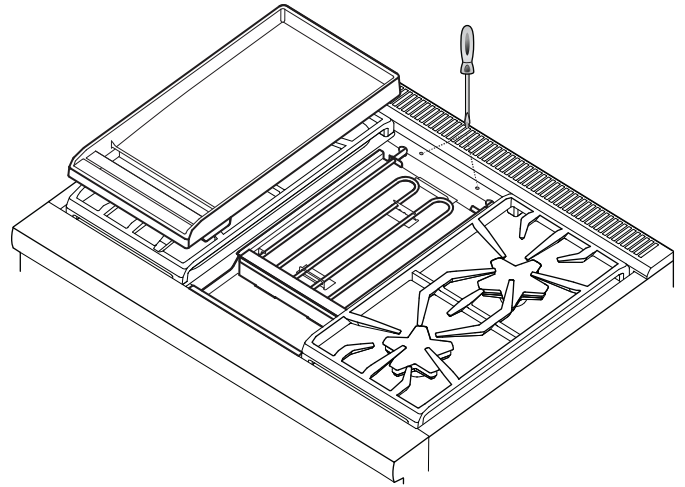

Figure 16: Griddle Plate Leveling Screws
3. Move the griddle plate to the side (*Figure 16*).
4. Adjust the two screws under the back of the plate. Start with one half turn counterclockwise of the screws (*Figure 16*).